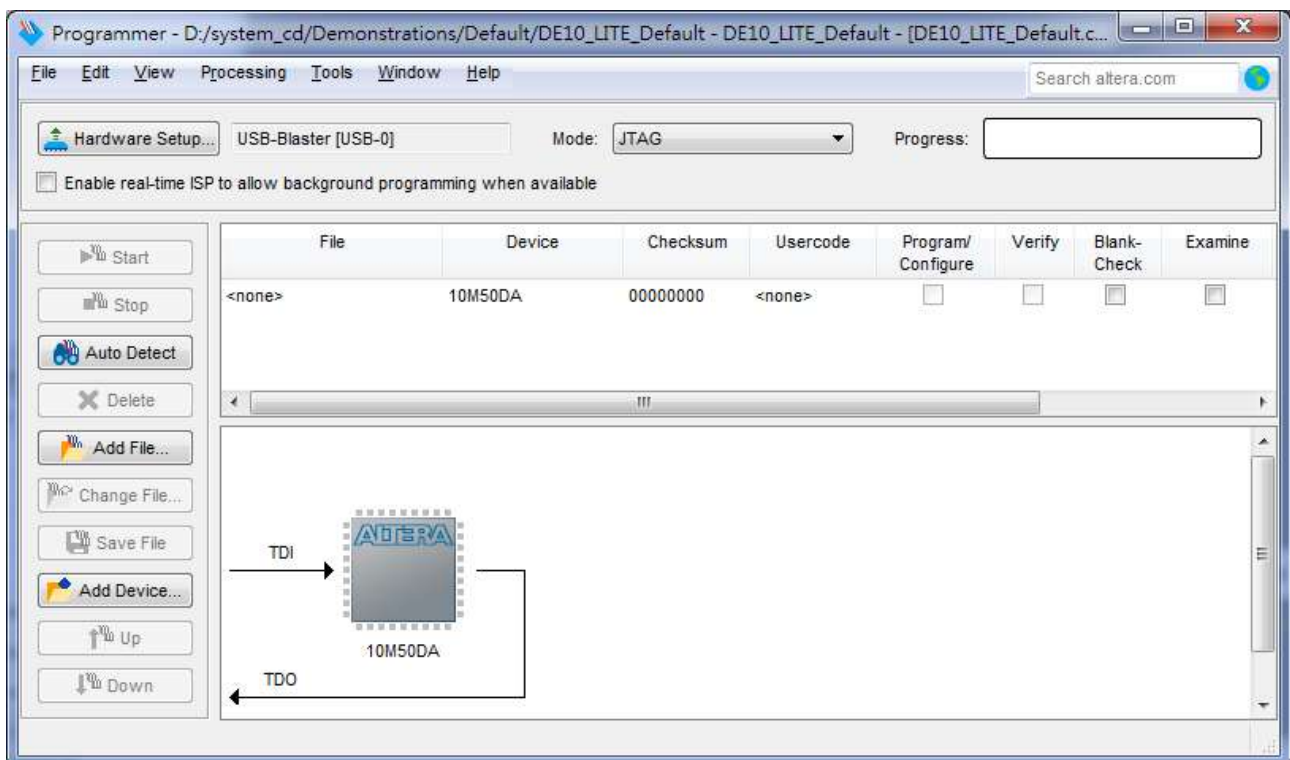

Figure 3-6 FPGA detected in Quartus II programmer
6. FPGA is detected, as shown in Figure 3-6.